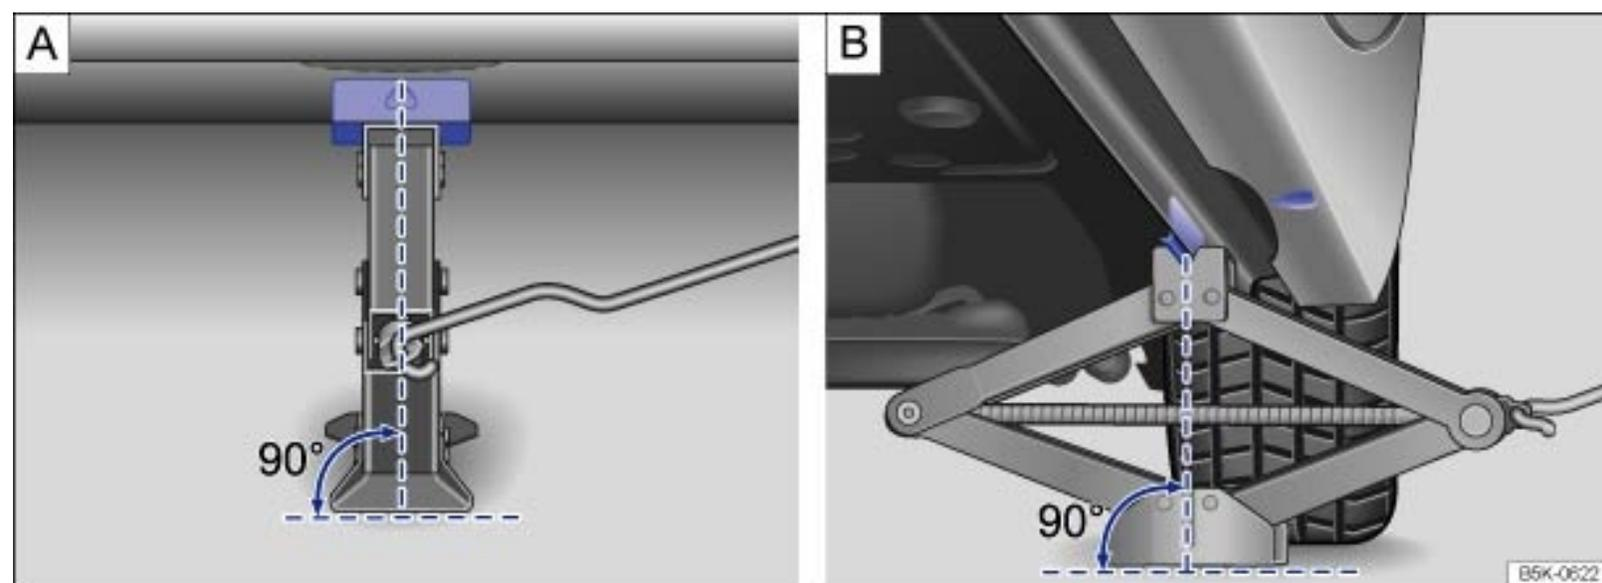

Fig. 216 Jack in position at the left rear lift point.
- Position the jack only at the described vehicle lift points. Before you raise your vehicle, always make sure the jack claw properly grips the vertical rib under the sill so that the jack does not slip off when you are raising the vehicle → Fig. 216.